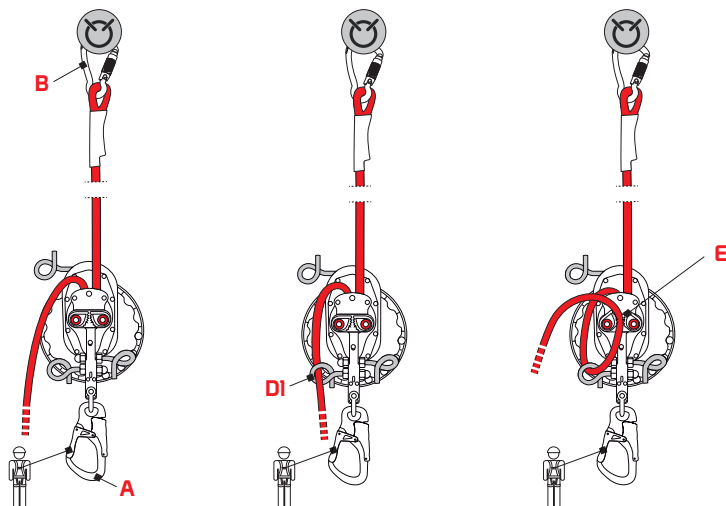

Fig.8
- connect the device, using connector (B) to an anchoring point conform to EN 795,
- hook the connector (A) to his harness attachment point,
- let the loose end of the rope in the pigtail bolt (D1) and then in the rope clamp (E) – fig. 8,